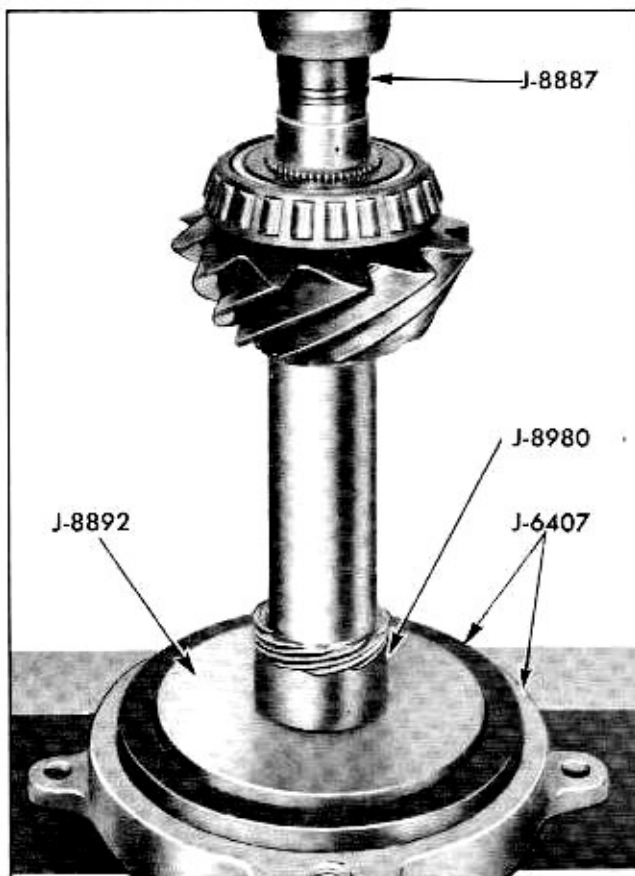

Fig. 4-38 Installing Speedometer Drive Gear
2. Press on speedometer drive gear using J-8980 spacer with J-8892 in J-6407 holder. Use J-8887 installed on end of pinion shaft (Fig. 4-38) on automatic only.